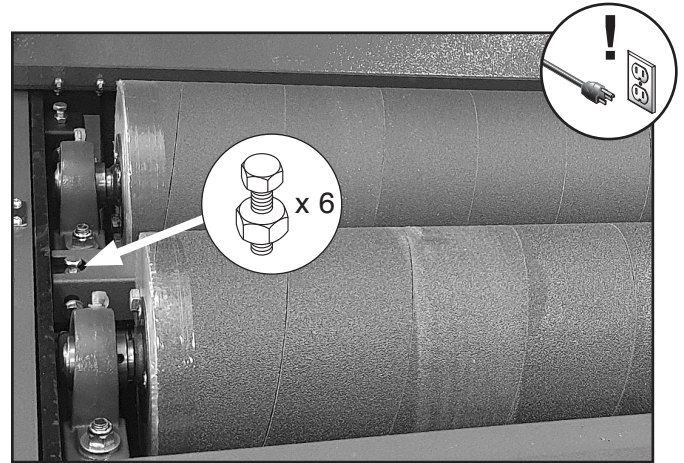

Figure 49. Location of pressure roller tension adjustment bolts.
4. Loosen tension adjustment jam nut (see **Figure 49**) on both ends of pressure roller.